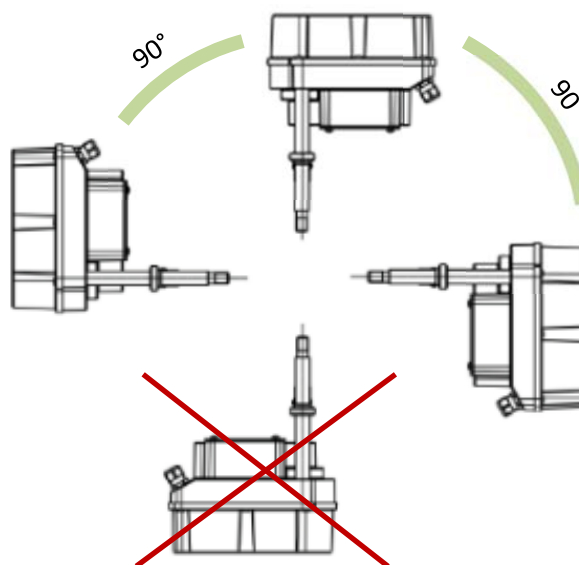

Figure 2: Mounting position
- The mounting position is arbitrary with the exception of "hood downwards" (Figure 2).